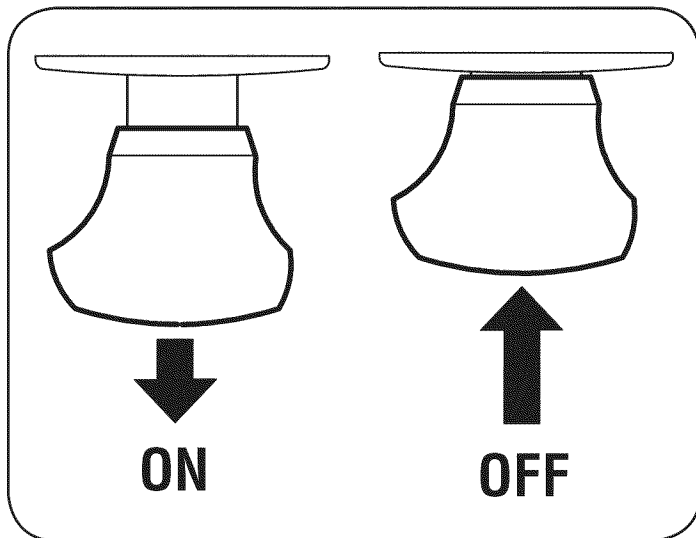

Figure 9
2. Pull the PTO/Blade Engage knob outward into the engaged (ON) position. See Figure 9.